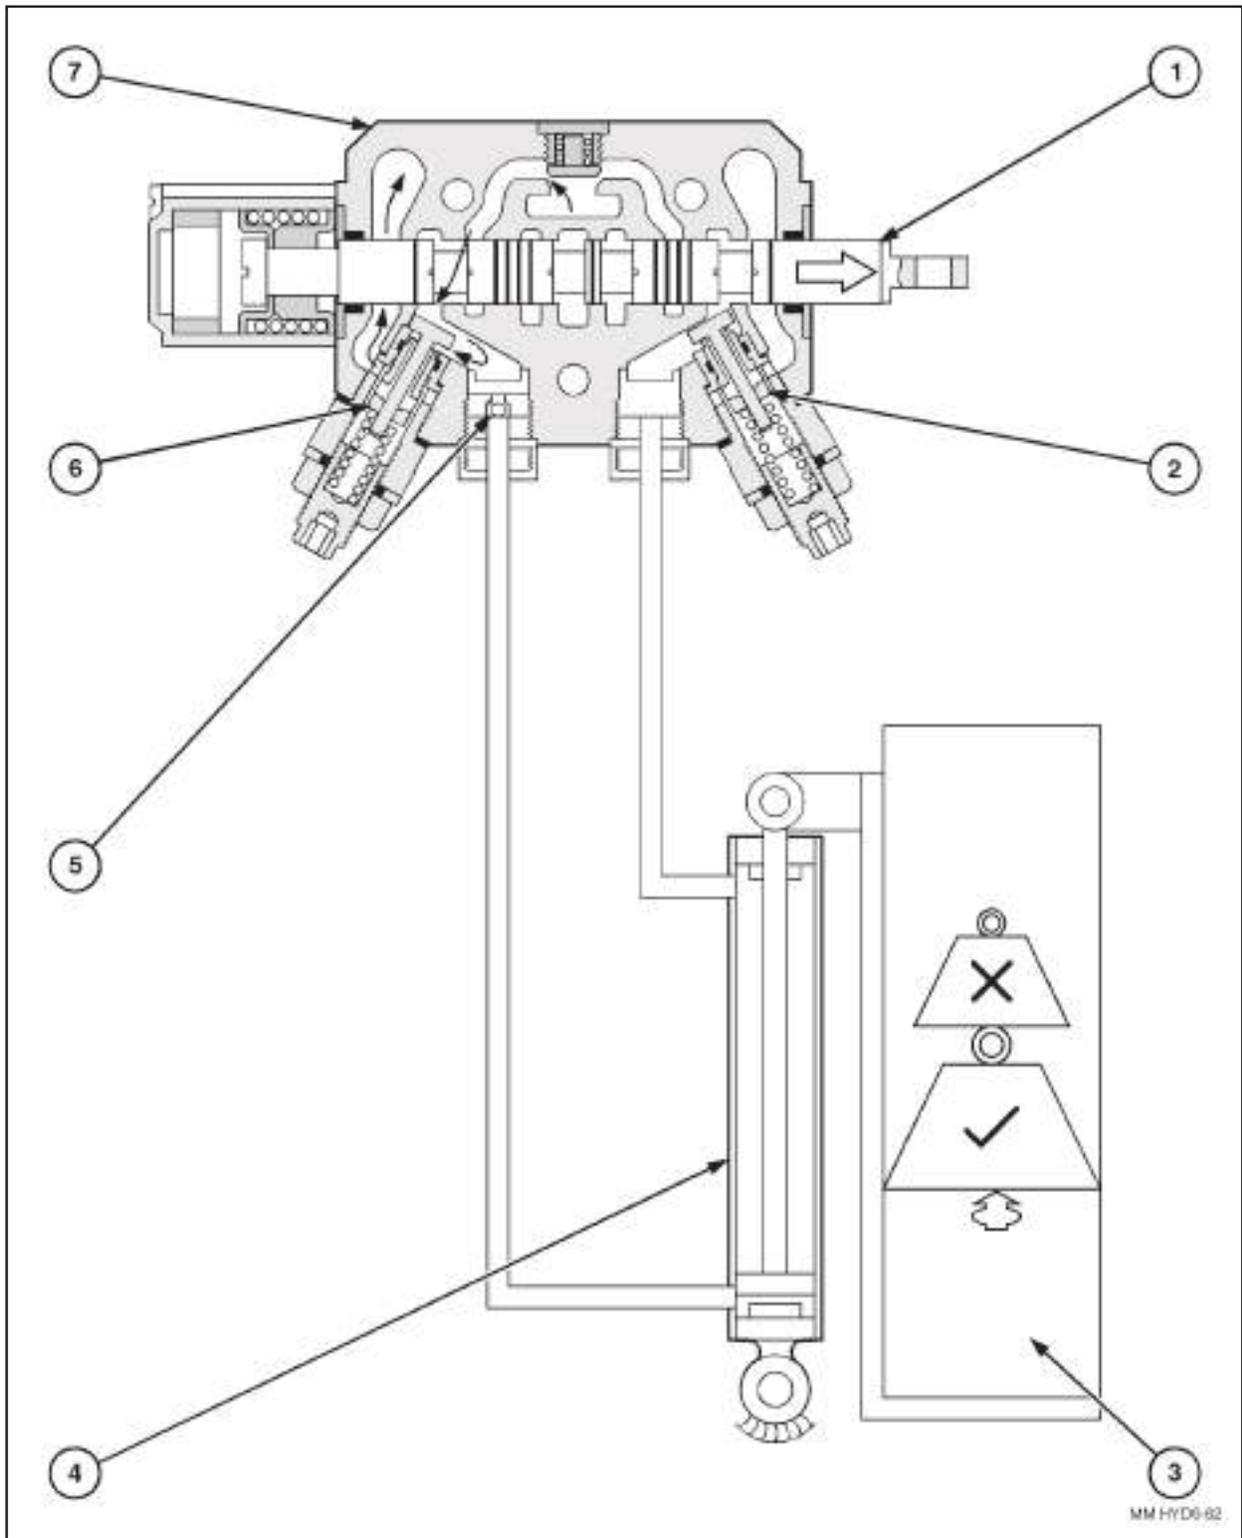

FIGURE 29. LIFT CIRCUIT OIL FLOW WITH OVERLOAD
- The lift circuit in figure 29 shows the relief valve action when attempting to lift excessive weight.